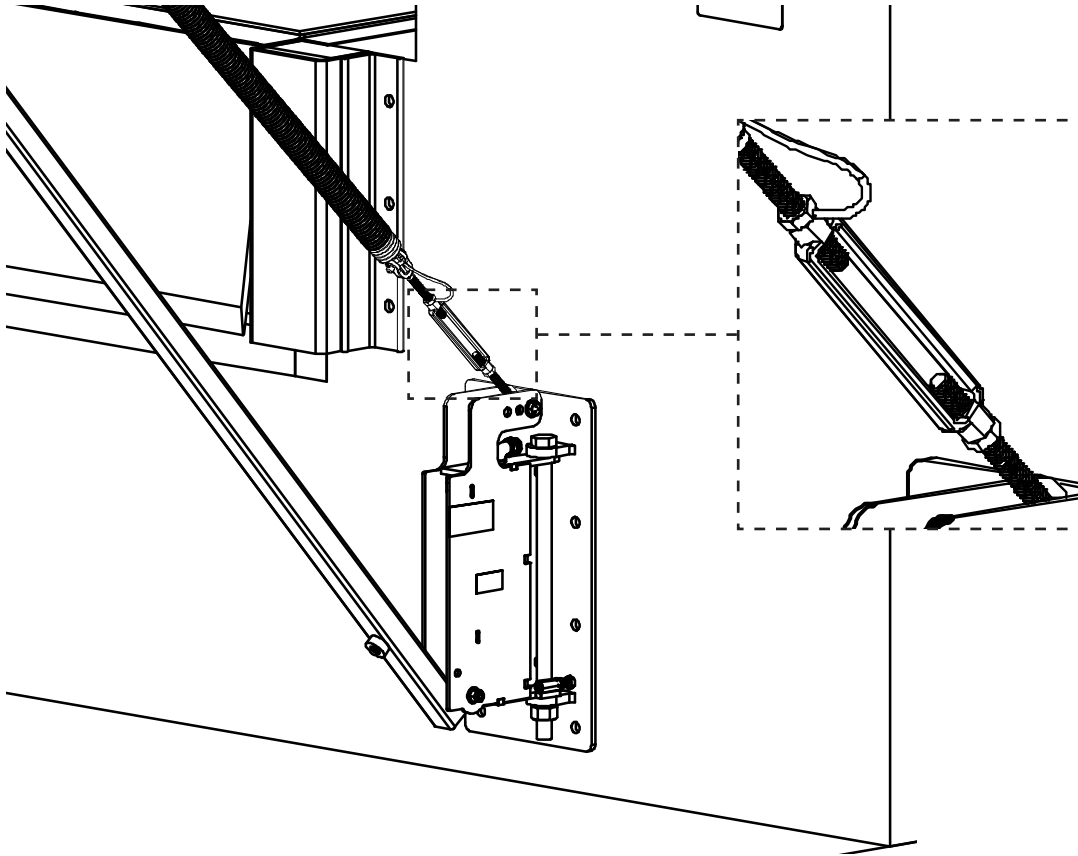

Figure 15
2. Adjust the spring tension with the turnbuckle, shown in **figure 15** on page 21. Loosen the jam nuts then adjust the turnbuckle to the desired tension. The arm should retract towards the wall within 5 seconds or less.